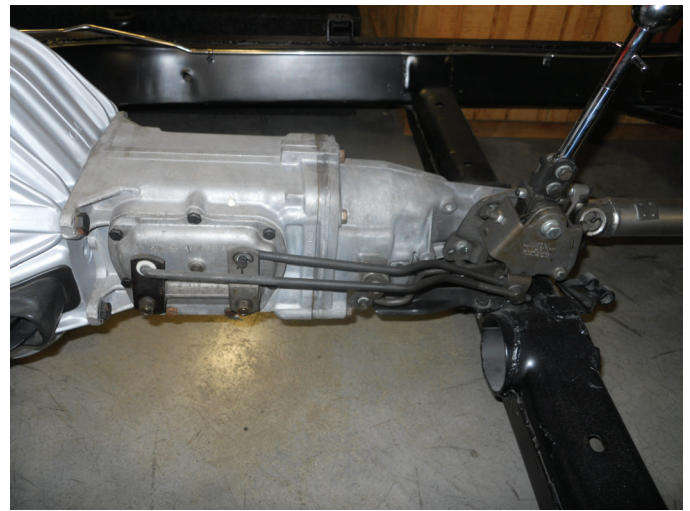

FIGURE 1-17 A Muncie four-speed manual transmission on a restored muscle car is an example of a close-ratio manual transmission.
- A close-ratio Muncie four-speed has ratios spaced fairly close together (25% or less), closer than the wide-ratio version. ● **SEE FIGURE 1-17.**